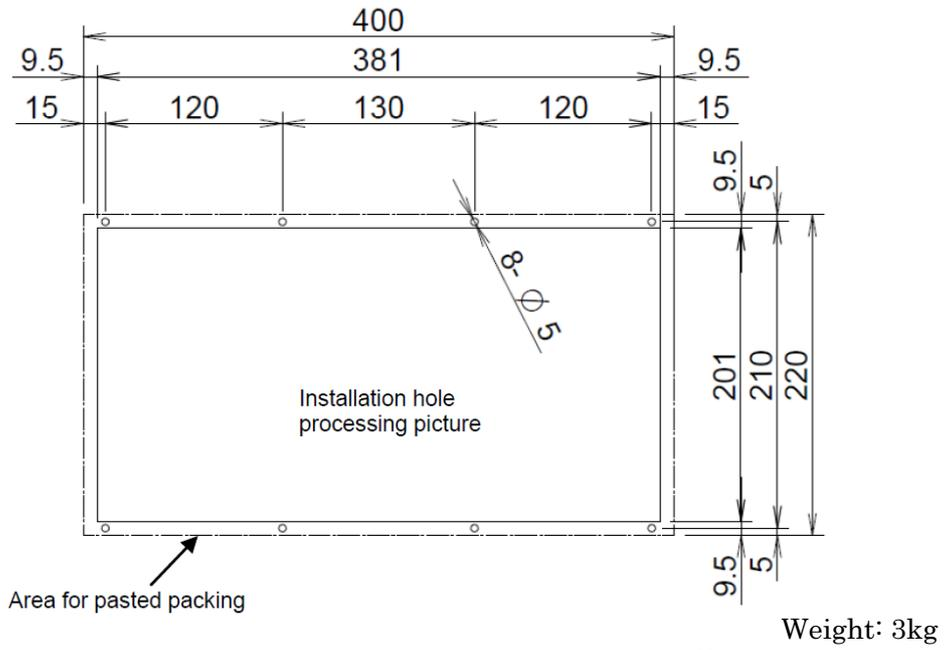

Fig. U13 10.4" color LCD/MDI horizontal (04)
10.4" color LCD/MDI horizontal	Fig. U13